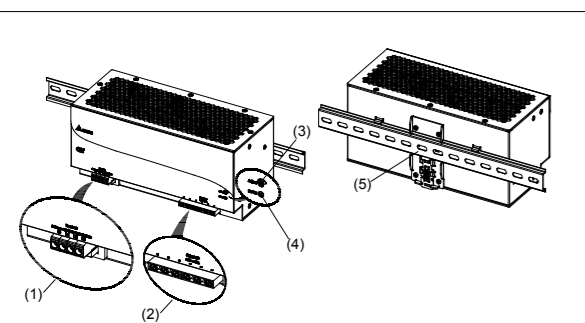
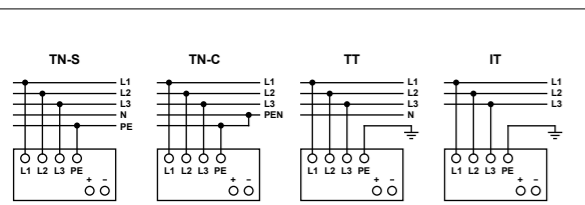

Figure 1
Figure 5
5.1. Input connection (Fig. 1, Fig. 5)
Use L1, L2, L3 and PE connections of input terminal connector (see Fig. 5) to establish the 3 x 400-500Vac connection. Fig. 5 shows the connection to the various network types (Recommend to use 4-core input cable for better EMI performance).
5.2. Output connection (Fig. 1 (2))
Use the “+” and “-” screw connections to establish the 24Vdc connection. The output provides 24Vdc. The output voltage can be adjusted from 24 to 28Vdc on the potentiometer. The green LED DC OK displays correct function of the output (Fig. 1 (4)). The device has a short circuit and overload protection and an over voltage protection limited to 35Vdc.